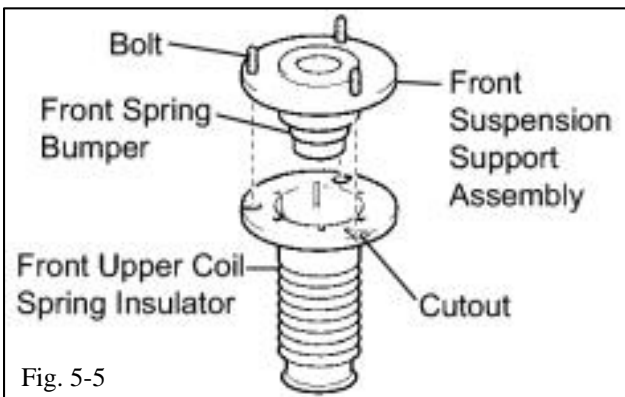

Fig. 5-5
- (h) Install the front spring bumper onto the front suspension support assembly (Fig. 5-5).
- (i) Align the bolt heads of the front suspension support assembly with the cutouts of the front upper coil spring insulator (Fig. 5-5).
- (j) Install the front upper coil spring insulator on the front suspension support assembly (Fig. 5-5).